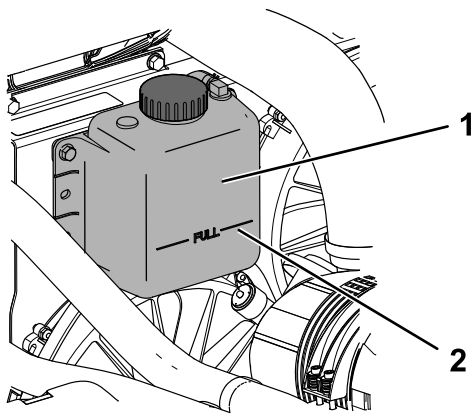

Figure 70
4. Check the coolant level in the expansion tank (Figure 70).